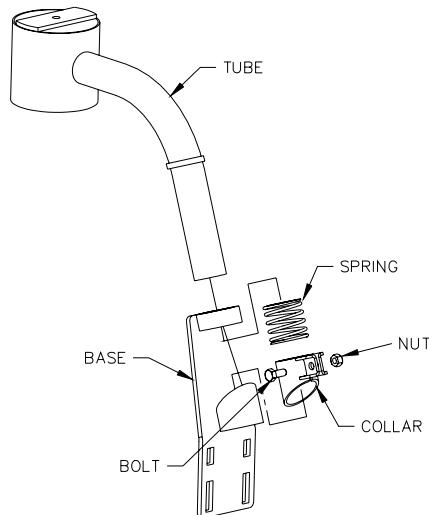
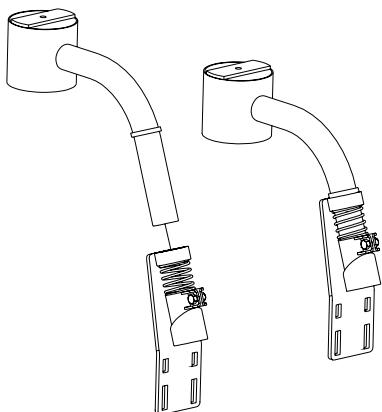

Figure 5 – Breakaway Sensor Bracket Exploded View
Figure 6 – Breakaway Sensor Mounting Bracket Assembly
1. Assemble the Breakaway Sensor Mounting Brackets (**B11**) as show in **Figure 5** and **Figure 6**.